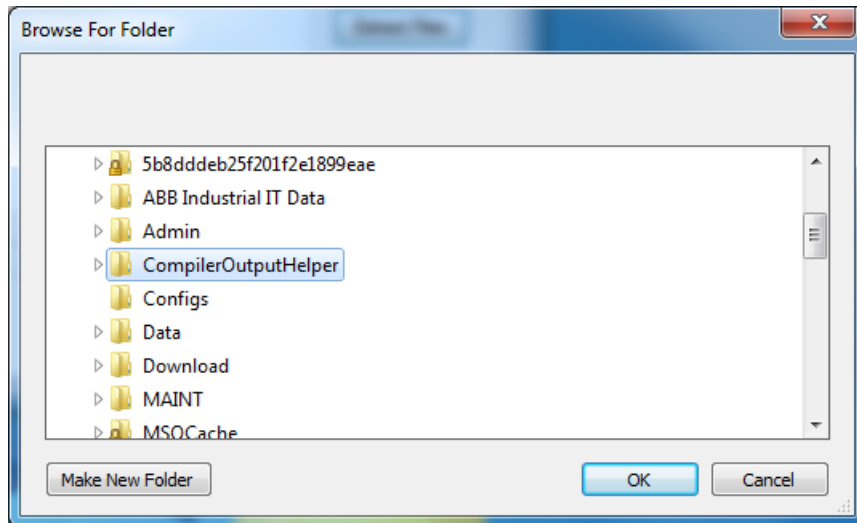

Figure 174. File Browser Dialog
3. Click the **Extract Files** and a file browser dialog appears as in Figure 174.
1. In the Restore tab click **Browse** to open the file browser dialog as shown in Figure 174.